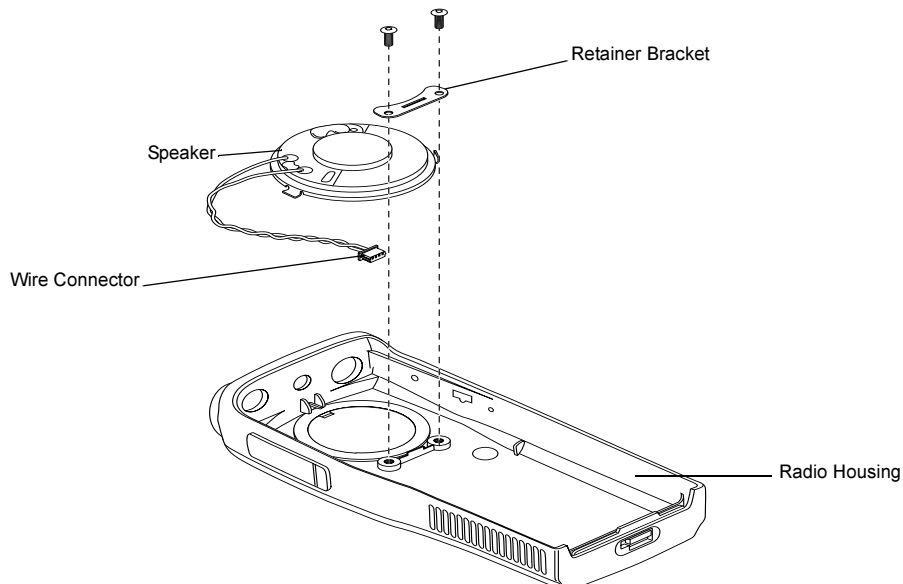

Figure 2-5 Removal Speaker-Microphone Assembly
- Speaker Disassembly (Figure 2-5)